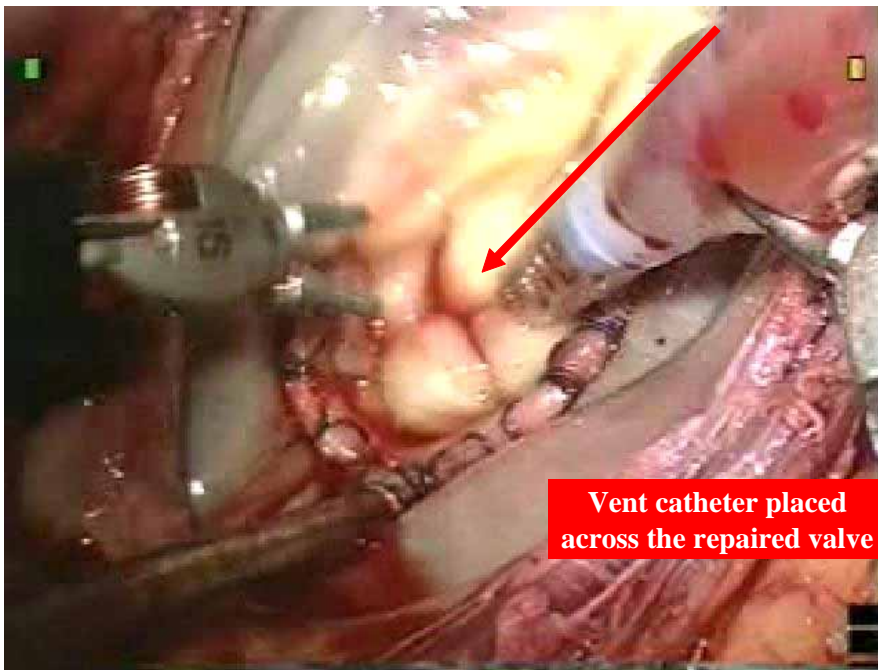

Figure 34: Sump sucker repositioning after mitral valve repair
- Following repair the DLP sump (vent catheter) is repositioned across the mitral valve to the left ventricle apex and placed to suction with an atmospheric vent valve or needle. Be sure the perfusionist applies adequate suction to this vent [Figure 34].